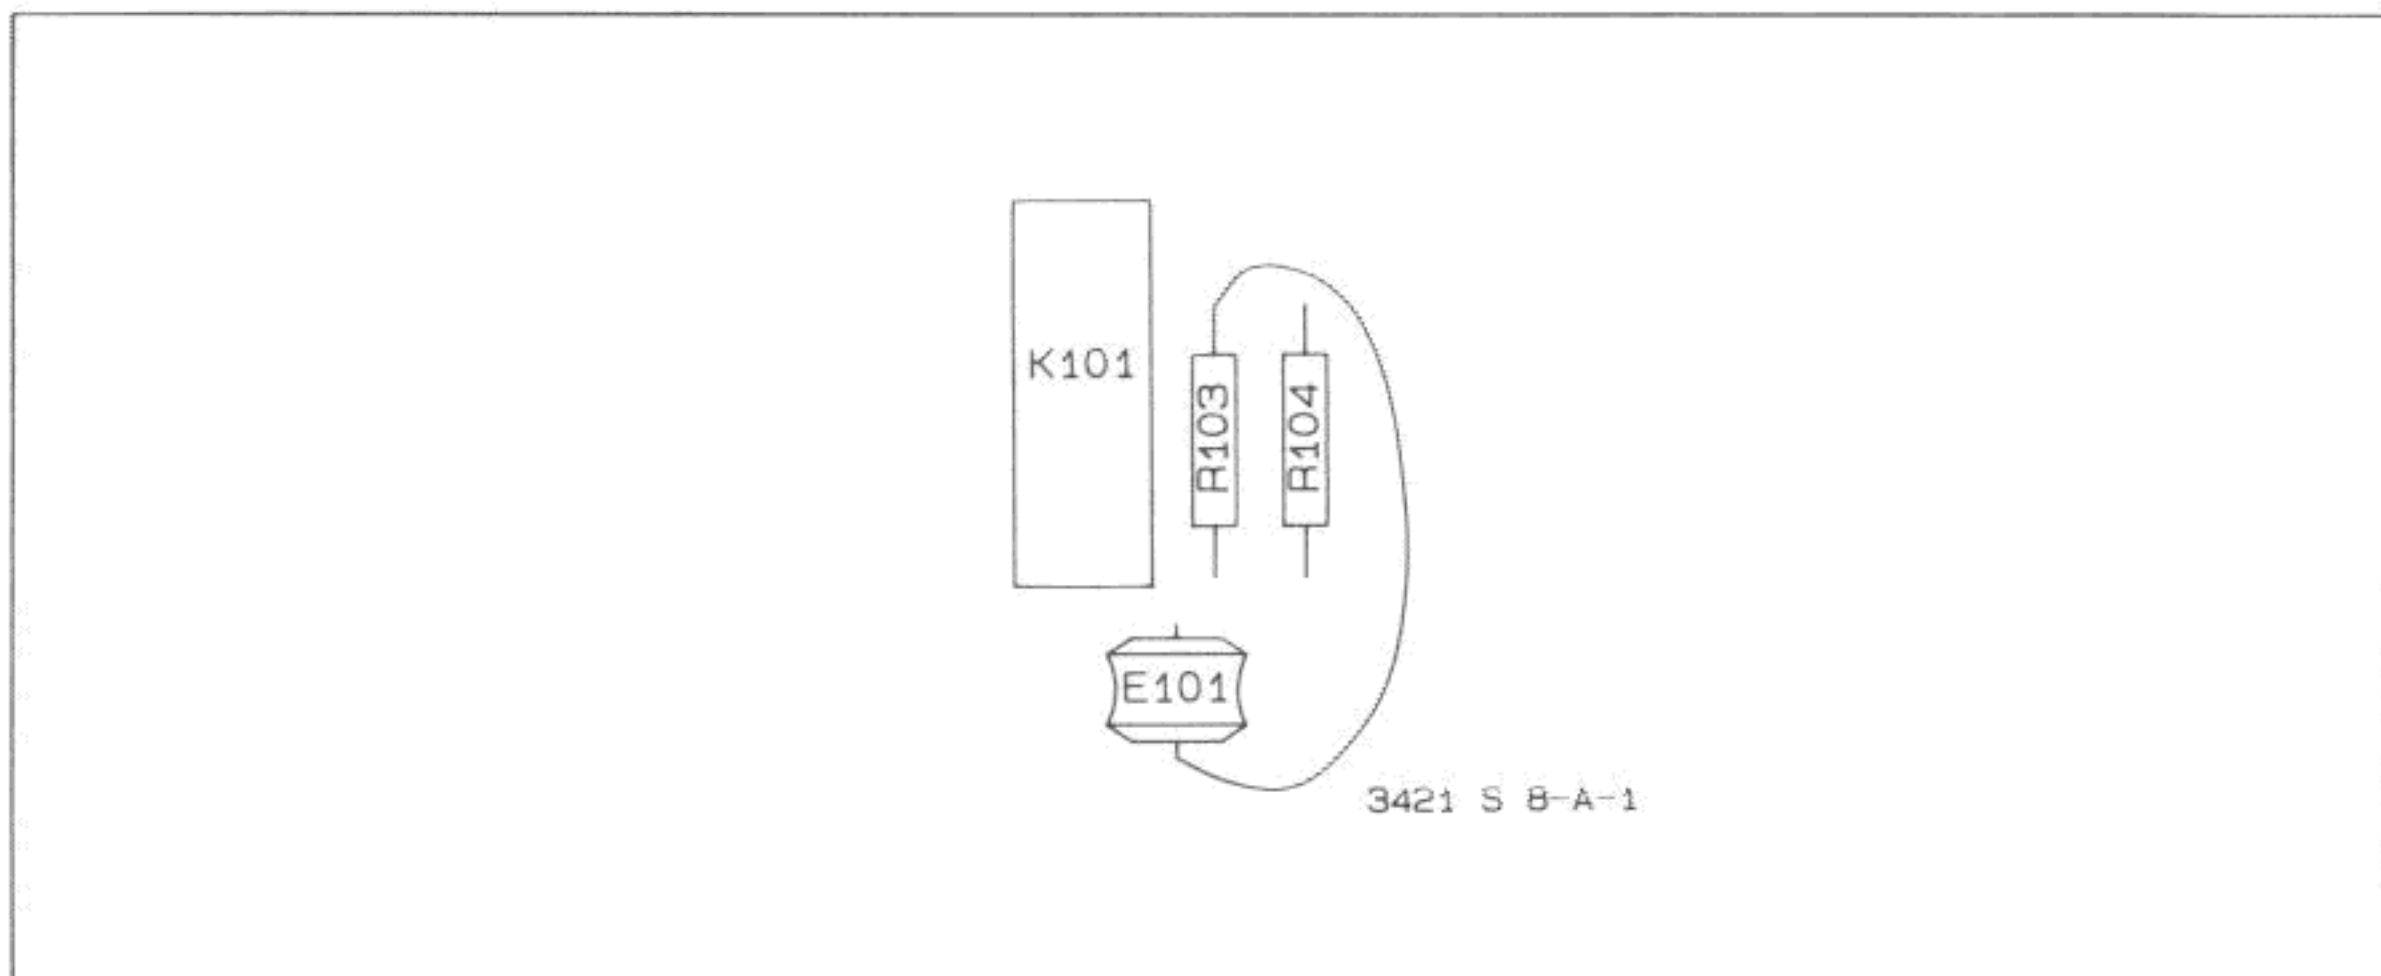

Figure 1-8-A-1. Shorting K101 Input to Output
1. Short the input and output of K101 together as shown in Figure 1-8-A-1.